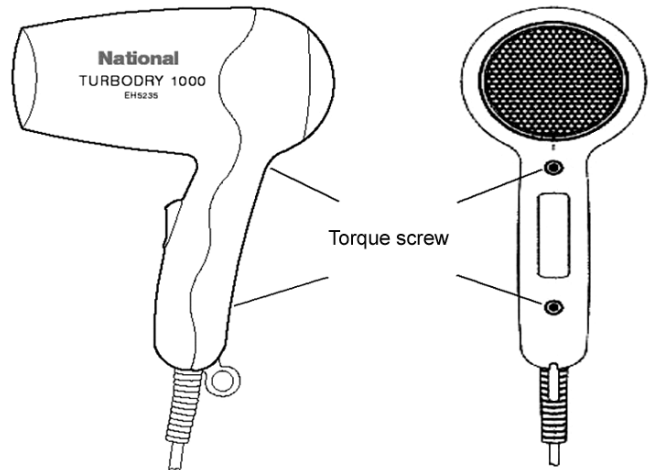

Figure 8
- (1) Remove 2 torque screws from the main body with a torque head driver as shown in Figure 8.